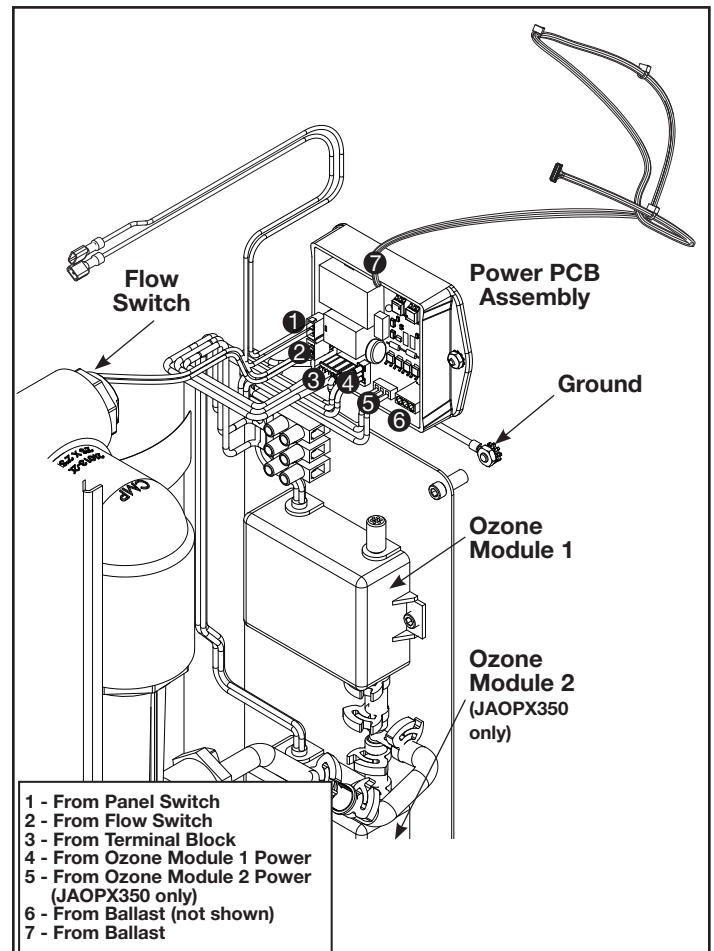

Figure 20. LED PCB Board and Power PCB Board Assemblies Wiring Connections
4. At the power PCB assembly, disconnect the following connectors: panel switch, flow switch, input power (from terminal block), ozone module(s), and ballast connectors. See Figure 20.
12. At the power PCB assembly, reconnect the panel switch, flow switch, input power (from terminal block), ozone module(s), and ballast connectors. See Figure 20.
6. Disconnect the lamp connectors from the ballast wire connectors. See Figure 20.